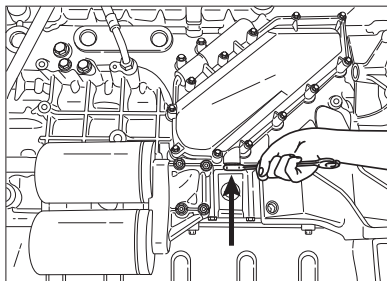

Figure 4.1
1. Make sure the main drain valve of the fresh water cooling system (above the oil filter mounting) is closed properly. Refer figure 4.1